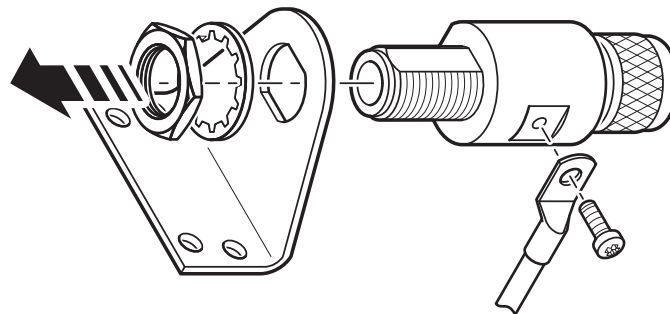

Figure 8.3: Assembly of the MBG S-PRO surge protector
2. Mount the supplied mounting bracket as shown in  Fig. 8.3, then fit the MBG S-PRO to the bracket.